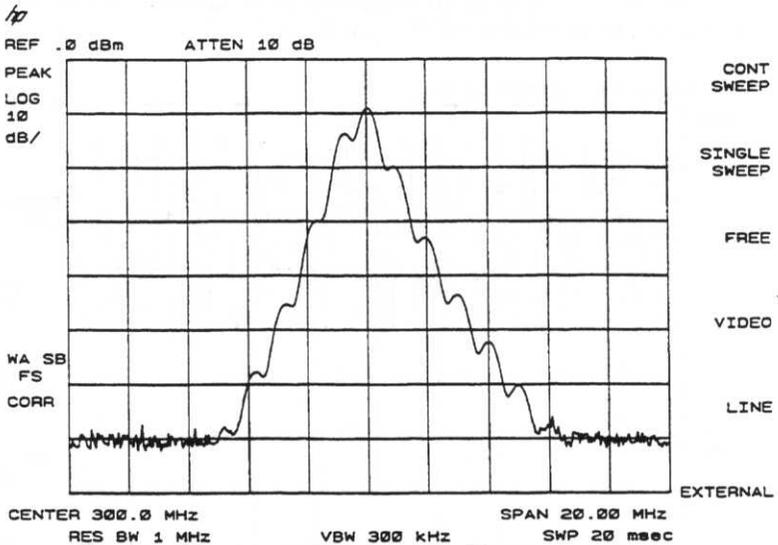

Figure 2-20
- First, center and zoom in on the signal in the frequency domain. (See "Automatic Zooming.") (Signal Track must be off for zero span.) See Figure 2-20.